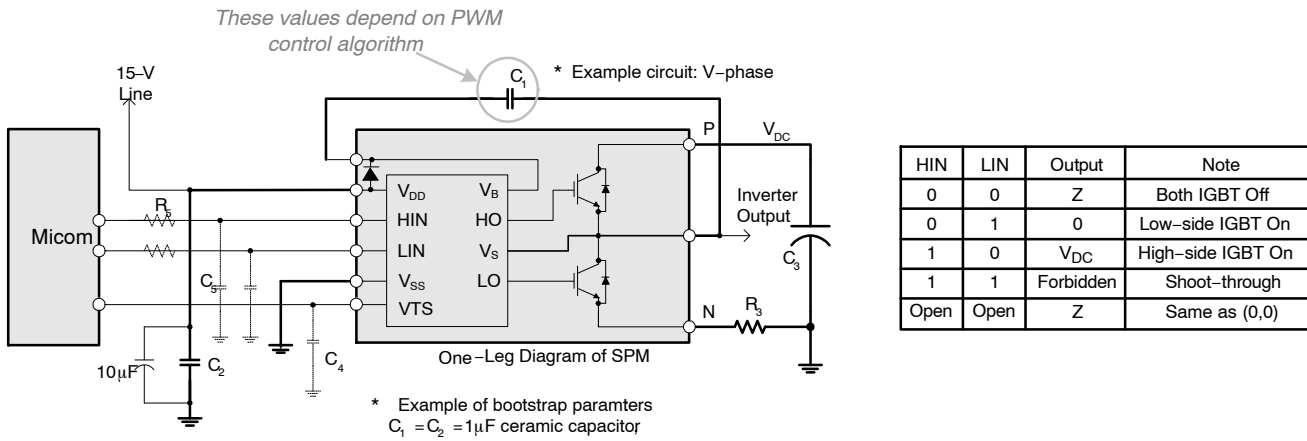

**Figure 2. Built-in Bootstrap Diode Characteristics (Typical)**
9. Built in bootstrap diode includes around  $15\ \Omega$  resistance characteristic. Please refer to Figure 2.